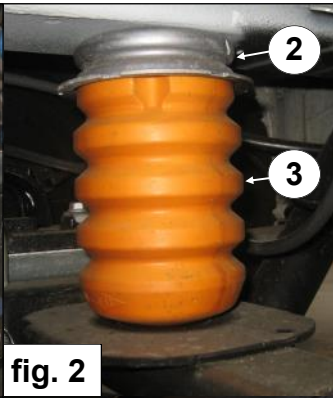

fig. 2
2. Screw the bump stop (3) with holder (2) out of the chassis member. *Fig. 2 & 3.*